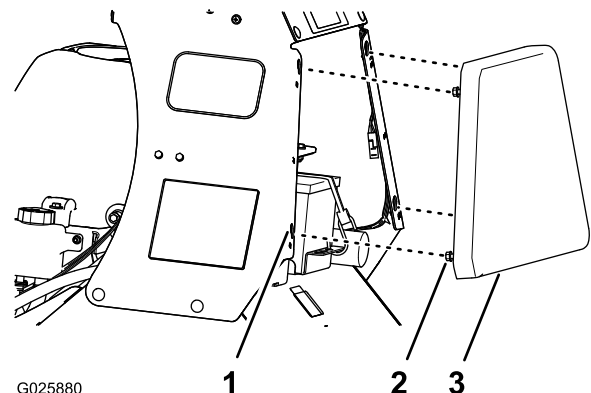

Figure 29
1. Loosen the 4 flanged-head bolts that secure the pad to the left and right console panels (Figure 29).
2. Lift up the console pad (Figure 29) approximately 13 mm (1/2 inch).
3. Pull the console pad straight back and remove the pad from the machine (Figure 29).
1. Align the 4 flanged-head bolts at the forward face of the console pad to the 4 keyhole slots in the frame of the console (Figure 29).
2. Move the pad forward until the pad is flush to the console frame (Figure 29).
3. Move the pad down until the flanged-head bolts are seated in the keyhole slots (Figure 29).